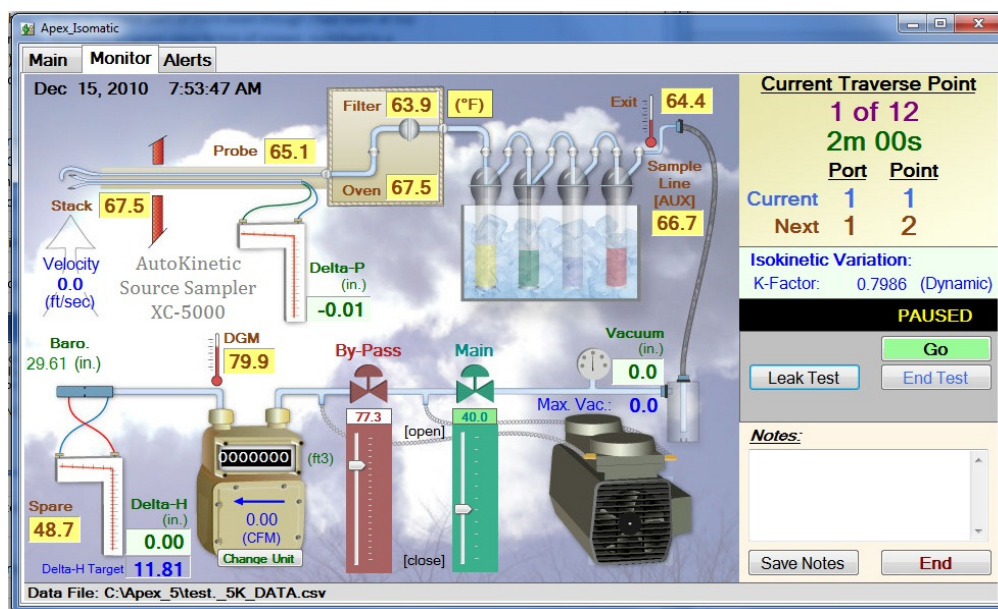

Figure 49 - Monitor Menu/Display Screen
- i) From the Main Menu, click on the **Sample Data** button to open the Monitor menu screen. This screen is shown in Figure 49 , below.